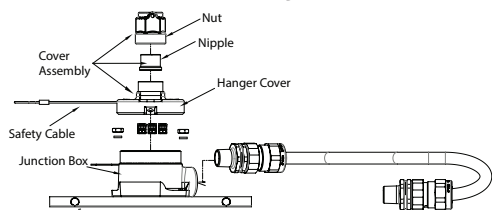

Figure 11
10. Remove the cover assembly from the junction box (see Figure 11).
13. With the nut fully tightened screw the cover assembly onto the conduit support until the conduit and nipple are fully engaged (See Figure 11).